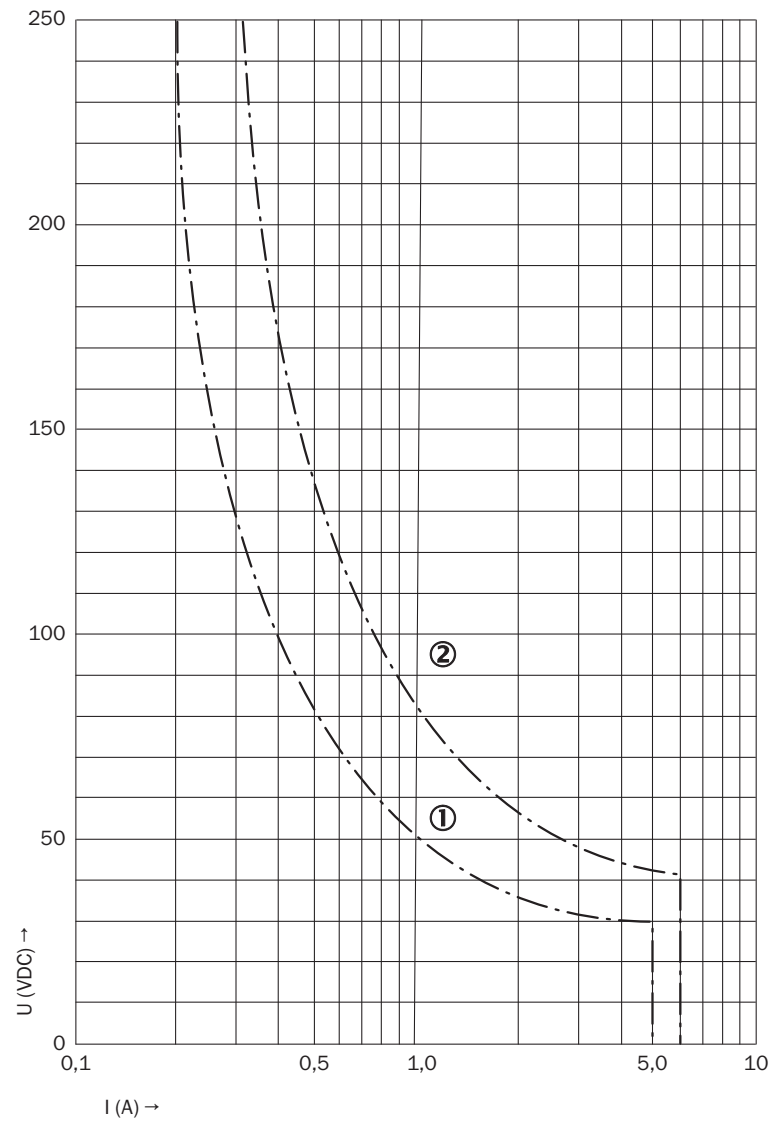
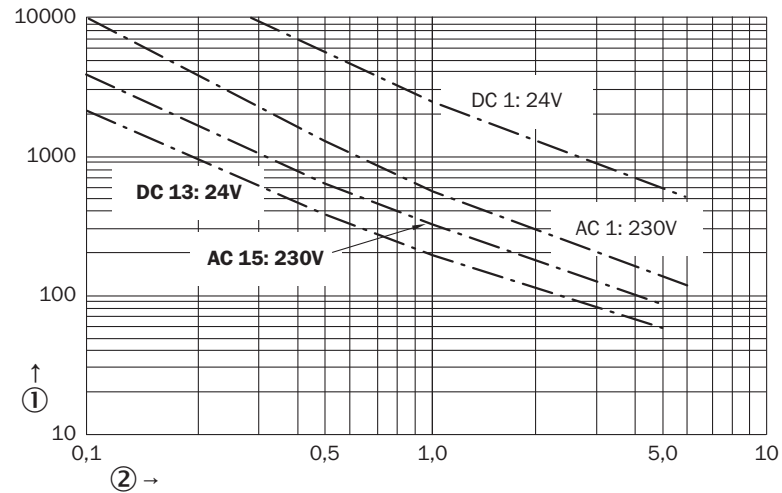

Figure 10: Switch-off delay without continuous arcing
Figure 11: Electrical service life
3) If service life curve is adhered to, see figure 11, page 26.
Switching current for enabling current paths 13, 14, 23, 24	10 mA ... 6 A, <a href="#">see figure 10, page 25</a> , <a href="#">see figure 11, page 26</a>
DC switching capacity	0.1 W ... 200 W, <a href="#">see figure 10, page 25</a>